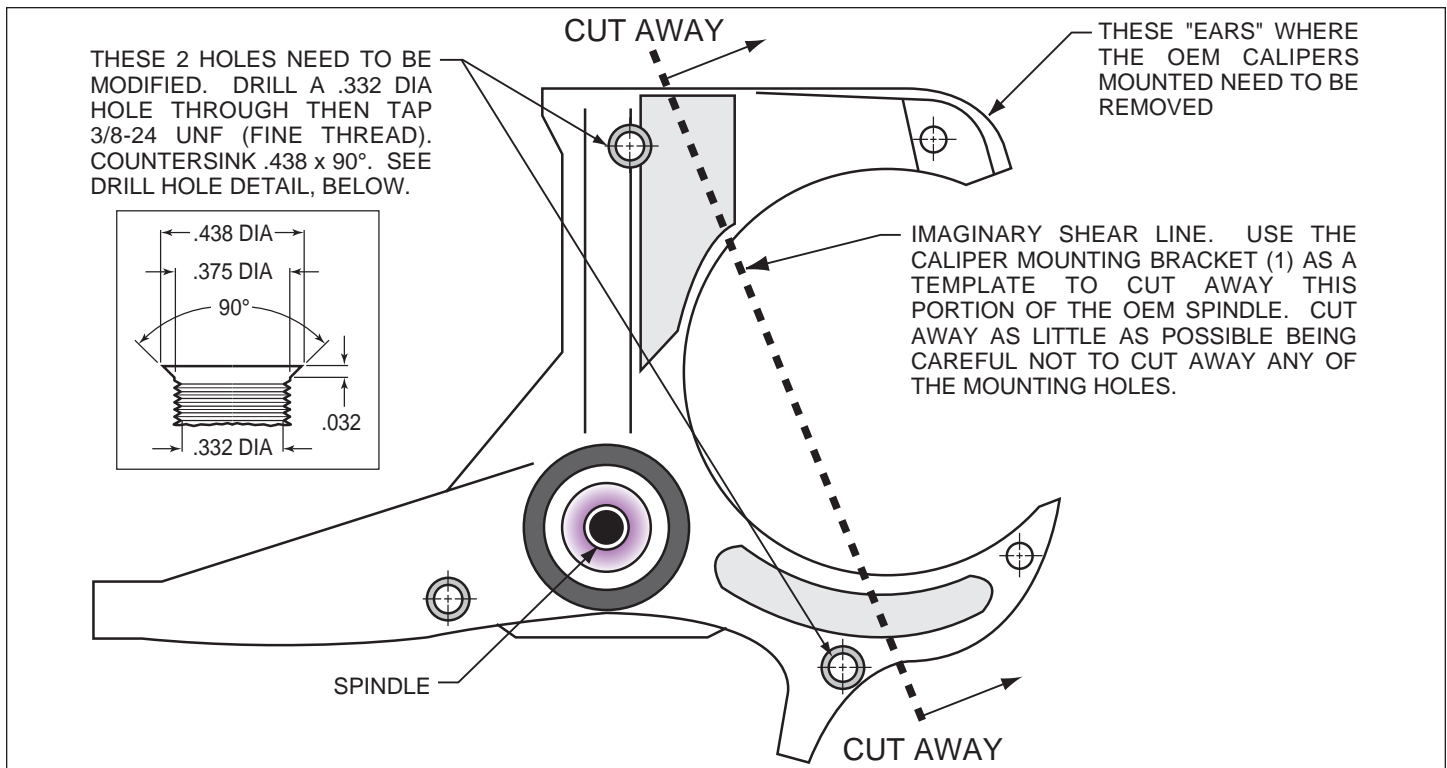
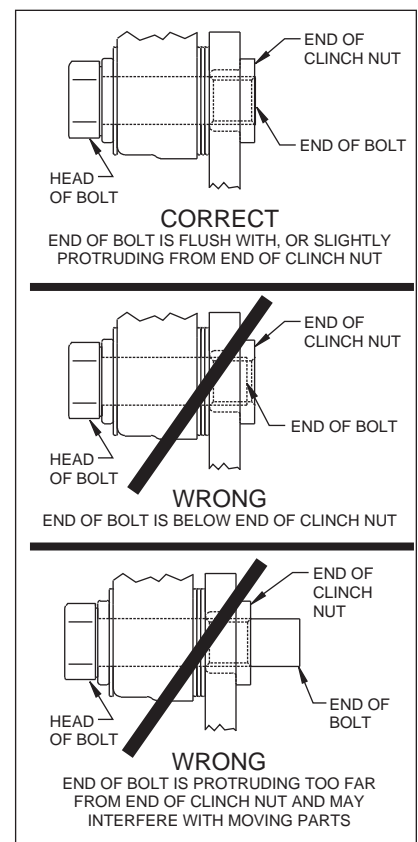

Figure 1. Steering Arm / Spindle Modifications
Figure 5.
These modifications should be performed by a qualified machinist. Refer to Figure 1 on the following page as necessary (numbers in parenthesis refer to the parts list on page three). Only one view of the steering arm/spindle is shown, but the modifications need to be performed on both steering arm/spindles.
•**NOTE:** The flat side of the rotor (8) lugs face toward the rotor adapter (9) with the dished side of the rotor adapter (8) facing away from the rotor (9).
•Mount the adapter/rotor assembly (8/9) to the hub (5) using bolts (11) (finger tight), as shown in Figure 1. Using an alternating sequence, remove bolts one at a time, apply red *Loctite*® 271 to the threads, and torque to 55 ft-lb.
•Pack the small outer bearing cone (12) with high temperature disc brake bearing grease and install into front of hub (5). Slide the hub/rotor assembly (5 and 9) with outer bearing cone (12) onto the spindle. Secure using stock washer, adjusting nut and nut locking device.
•Install the dust cap (15) onto the hub (5). Friction created by the o-ring (14) on the dust cap (15) keeps it from unscrewing. The O.D. of the existing spindle washer may be larger than the I.D. of the dust cap (15) not allowing it to seat against the hub face. Therefore, use the spindle washer (13) supplied with the kit instead of the stock washer.
•**NOTE:** Please reference the caution statement at the beginning of the assembly instructions. Mount the caliper (16) onto the caliper mounting bracket (1) using washers (17), bolts (18) and caliper spacer (19) positioned between caliper (16) and the caliper mounting bracket (1). Finger tighten. View the rotor (9) through the top opening of the caliper (16). The rotor (9) should be aligned in the center of the caliper (16). If not, adjust the caliper (16) by using 0.032 inch thick shims (20) placed between the caliper mounting bracket (1) and the caliper (16). Add as many shim washers (20) as necessary to achieve the correct alignment. **NOTE:** The end of the bolt must be flush with or slightly protruding from the head of the clinch nut. See Figure 5. Place spare shims (20) between washer and caliper mounting ear to achieve the proper mounting fastener configuration. Always use the same amount of shims on both the top and bottom caliper mounting bolts (18). Finger tighten and recheck alignment, adjust as necessary. Apply red *Loctite*® 271 to bolt threads (18) and torque to 30 ft-lb. Safety wire caliper bolts (18).
•Install the disc brake pads (21) into the caliper (16). Secure the disc brake pads to the caliper utilizing cotter pin (22).